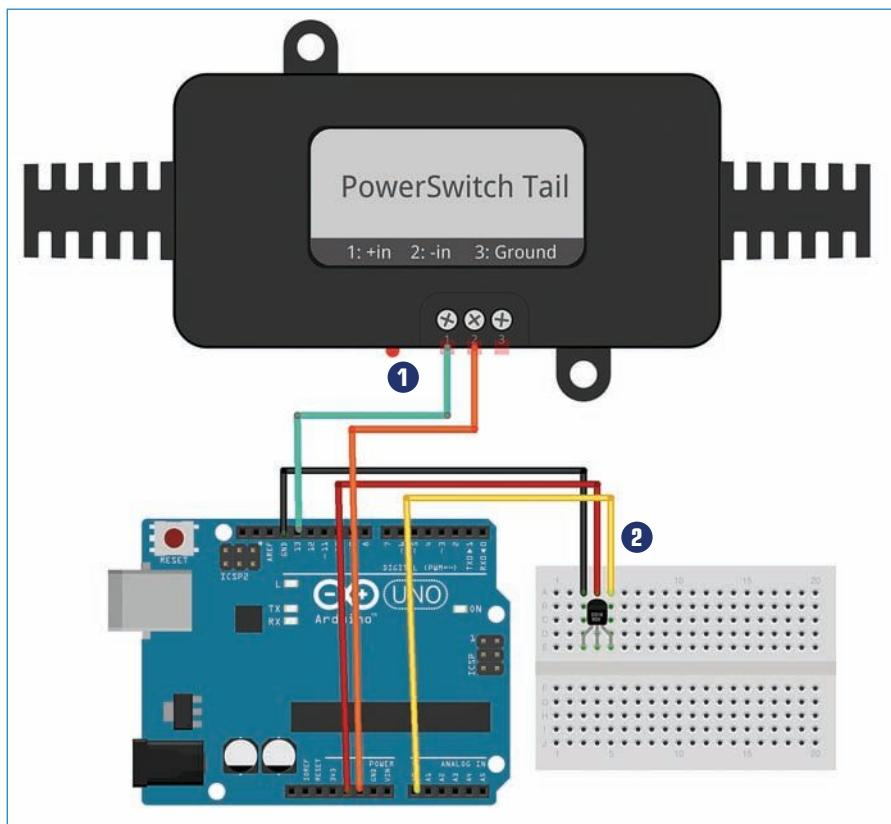

FIGURE 12.8 The fan controller is a quick and easy build.
This is a quick-and-dirty build, with only five wires and a single electronic component, shown in Figure 12.8.
- ❶ Connect the first and second terminals of the PowerSwitch Tail to pin 13 and a GND on the Arduino. In Figure 12.8, these are shown as being green and orange wires, respectively.
- ❷ Looking at the flat face of the temperature sensor, connect the left lead to GND (black wire), the center lead to 5V (red wire), and the right-hand lead (yellow) to A0.